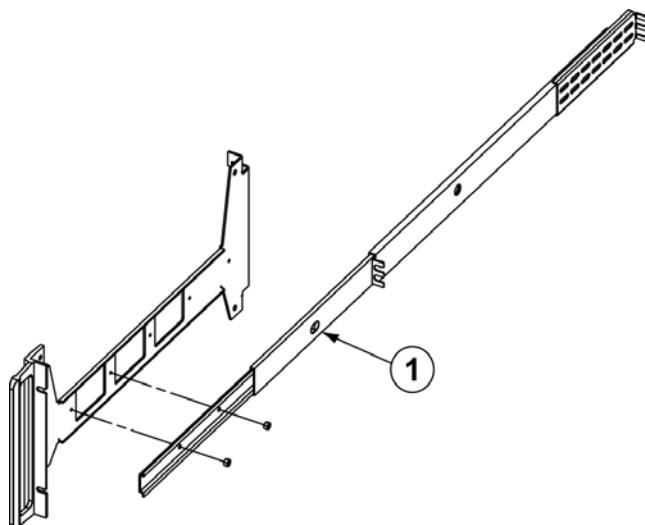

Figure 2-2. Rack Mount Slide Assembly Diagram
4. Install the rack mount slides over the threaded studs on the rack mount bracket and handle fixtures as shown in Figure 2-2, below, and secure them in place with the two fastening nuts. (Push the button at 1 to release and extend the slide.)